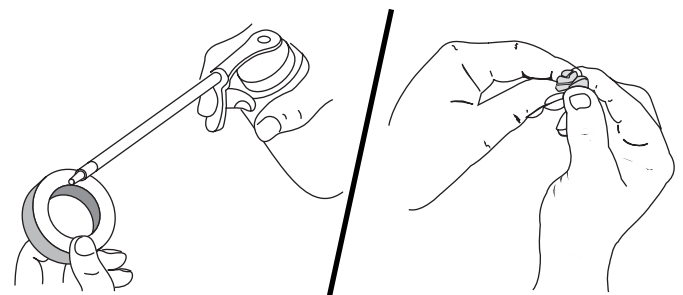

Fig. 15
4. Apply enough SAE 30 oil to lightly coat the filter (Fig. 15).
5. Squeeze the filter to spread and remove extra oil (Fig. 15).